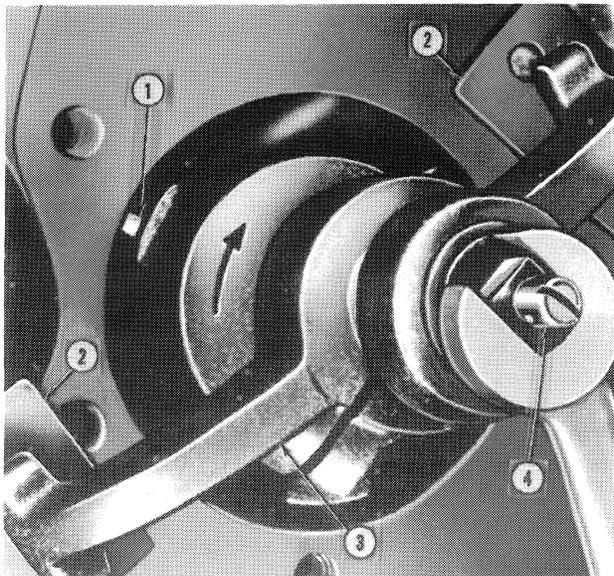

Figure 34
4. If necessary, remove the ridge from the top of each cylinder with a cylinder ridge reamer or a hand scraper, Figure 34. (Ridge removal is not necessary when reboring or if the old pistons are not to be used. However, it may be necessary to remove a ridge in order to remove an old piston.) When removing the cylinder ridge do not cut down into the ring travel more than 1/32 in. (0.793 mm). It is possible to cut so deeply into the cylinder wall and so far down into the ring travel that reboring, or the installation of a new engine block is necessary. Do not attempt to remove and reuse a piston from a cylinder with an excessive ridge. Forcing the piston past the ridge may break the lands on the piston or the rings.